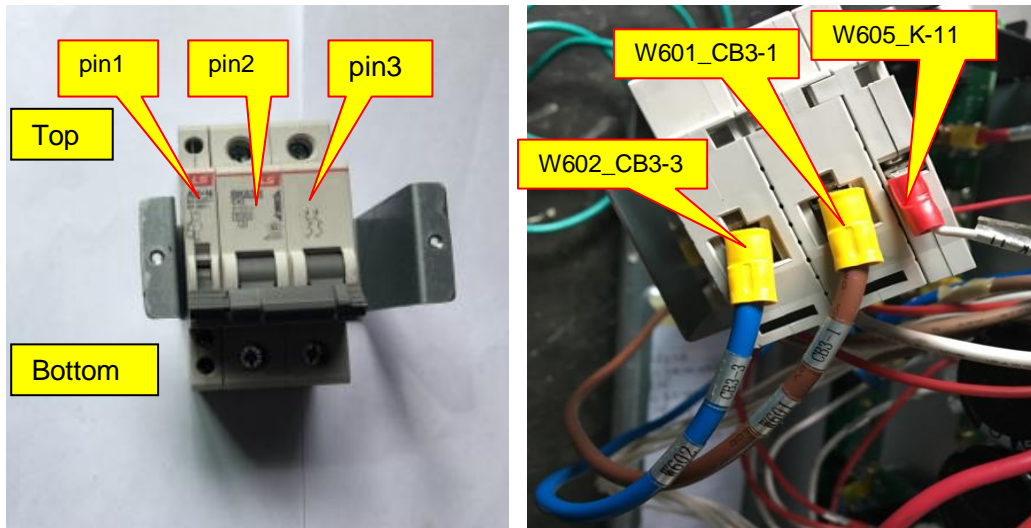

Figure 3 Cable connection
3. Fix circuit breaker to supporting structure, then connect cable W601\_CB3-1 to the top of pin2; W603\_CB3-2 connect to the bottom of pin2; W602\_CB3-3 connect to the top of pin3; W604\_CB3-4 connect to the bottom of pin3; W605\_K-11 connect to the top of pin1; W605\_K-14 connect to the bottom of pin1, the other end connect to J13 of PS1509 DR2\_(power board) through the hole, as is shown in figure 3 and 4.